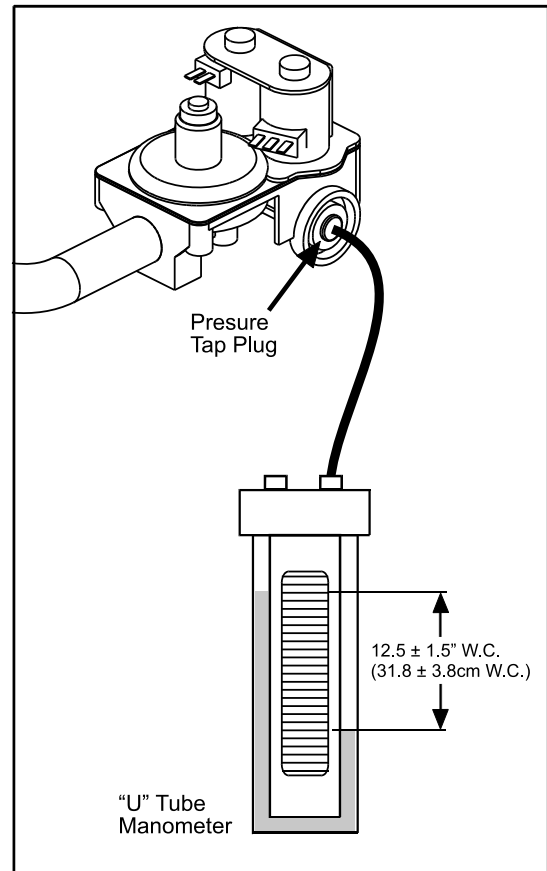

Figure 6
- Remove the pressure tap plug from the gas valve body (Figure 6) and install a pressure tap fitting finger tight.